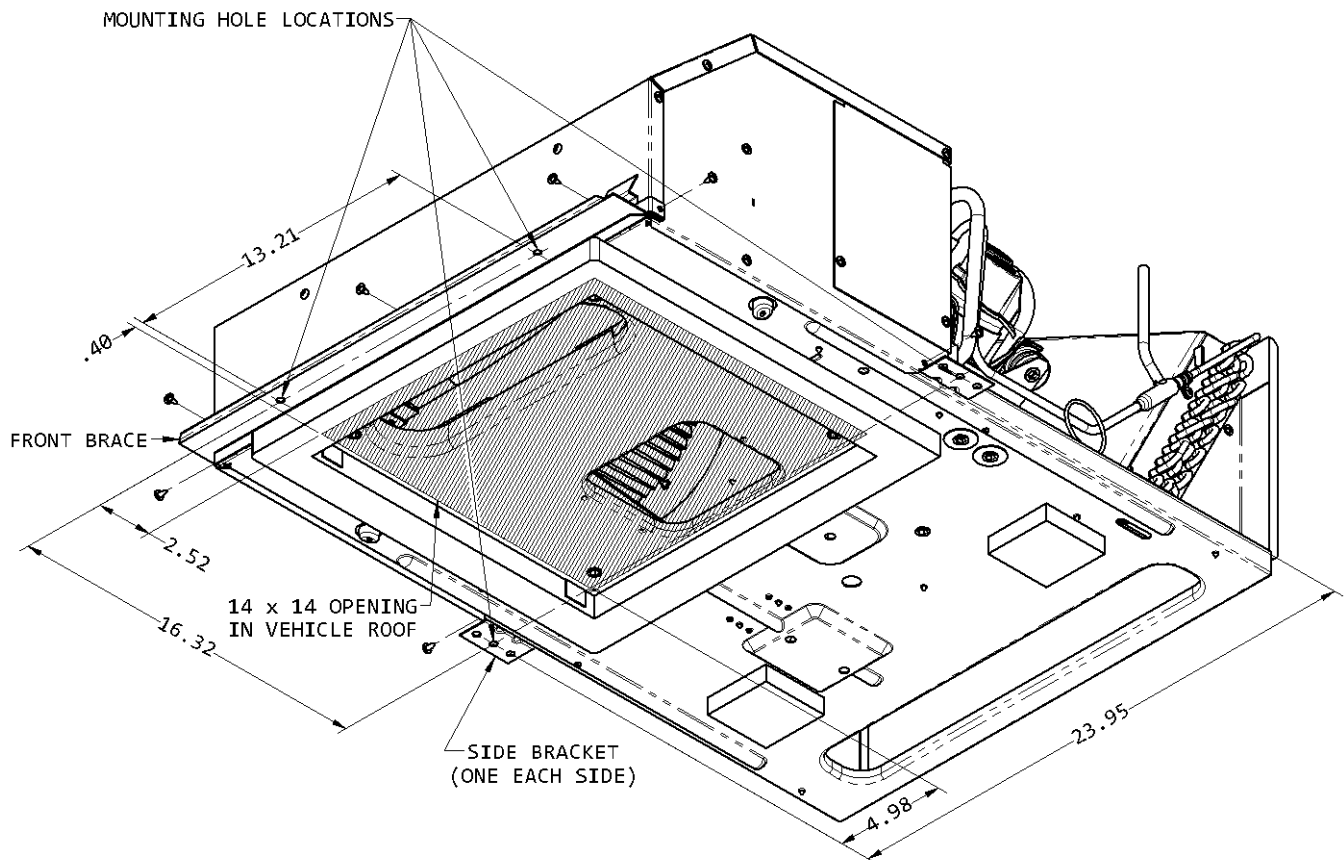

FIGURE 1
2. At the front of the roof top unit, remove the 5 screws as shown in Figure 1 and re-use them to install the front brace provided in the kit. See Figure 1.
3. Remove the screw from the lower-rear corner of the evaporator housing as shown in Figure 1, slide the provided side bracket over the edge of the basepan and gently tap the bracket forward to align the side bracket hole with the hole in the basepan and re-install the screw. Repeat this step for the opposite side of the unit. See Figure 1.
4. See Figure 1 for locations where mounting screws will install in relation to the 14 x 14 inch opening in the vehicle roof. Even though the mounting screws are self-drilling, pilot holes may be pre-drilled in the roof at these locations.